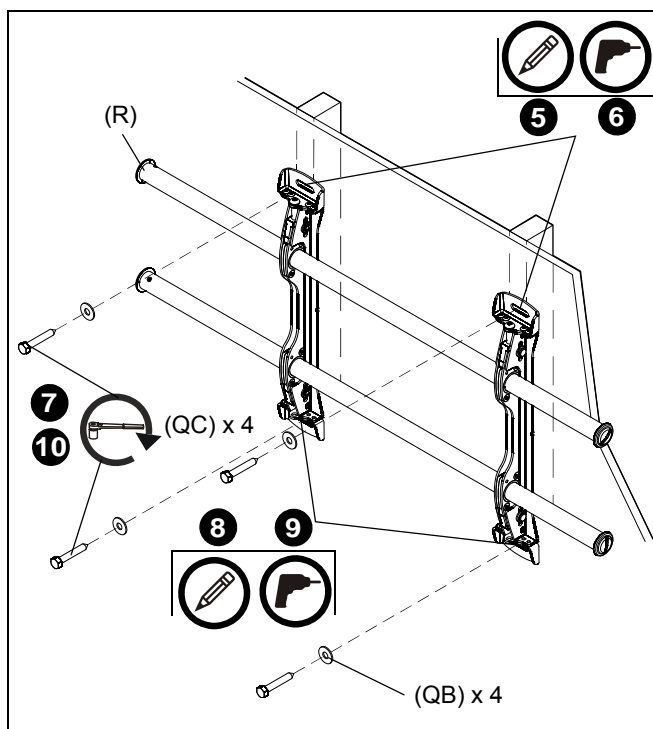

Figure 2
5. Using a level, mark the wall on each stud to attach the mount through the upper mounting slots. (See Figure 2)
7. Use two 5/16 x 2-1/2" lag bolts (QC) and two 5/16" flat washers (QB) to attach top of mount (R) to wall. (See Figure 2)
8. Mark the attachment points for the lower mounting slots, making sure the attachment points are located on the studs. (See Figure 2)
9. Drill 7/32" (5.5mm) pilot holes at markings for lower mounting holes. (See Figure 2)
10. Use two 5/16 x 2-1/2" lag bolts (QC) and two 5/16" flat washers (QB) to attach the mount to the wall through the lower mounting holes. (See Figure 2)